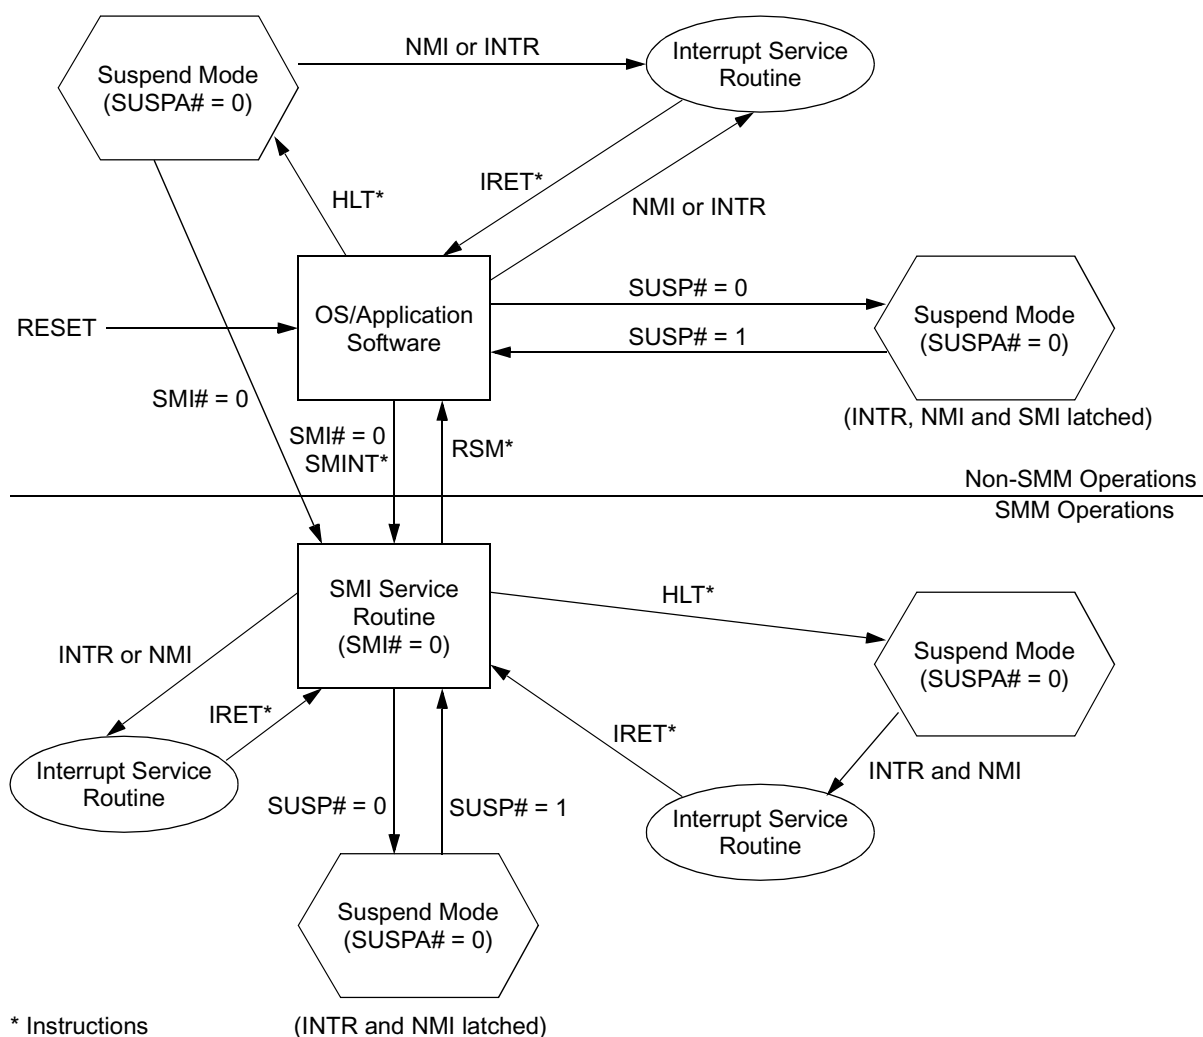

Figure 2-15 SMM and Suspend Mode State Diagram
Figure 2-15 illustrates the various CPU states associated with SMM and suspend mode. While in the SMI service routine, the processor can enter suspend mode either by (1) executing a halt (HLT) instruction or (2) by asserting the SUSP# input.